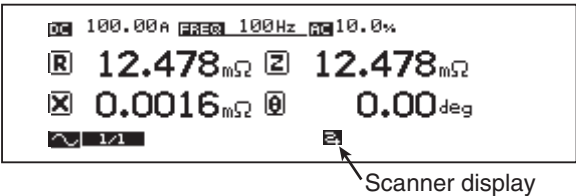

Fig.2-3 KFM2150 scanner display
Then, enable the KFM2150 scanner function. Select Configuration > Option> Scanner from the KFM2150 menu and select Enable. Turn the KFM2150 POWER switch off and then turn it back on. The scanner display (E) appears on the KFM2150 as shown in Fig.2-3 enabling the use of the KFM2151.